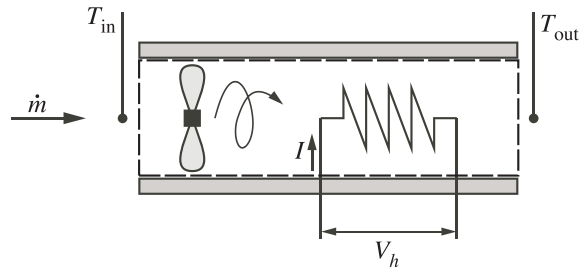

Figure 2: Simplified schematic of the hair dryer experiment. The dashed line is a control volume that may be helpful in developing analytical models.
Figure 2 is a simplified schematic of the hair dryer. A DC-powered fan pulls air from the room and forces it past AC-powered heating coils. The electrical power dissipated as heat is  $\dot{E}_{in} = I^2 R = V_h^2 / R$ , where  $I$  is the current flowing through the heating element,  $R$  is the electrical resistance of the heating element and  $V_h$  is the voltage supplied to the heating element.
1. Applying the steady flow energy equation to the air flow from the inlet and outlet stations in Figure 2